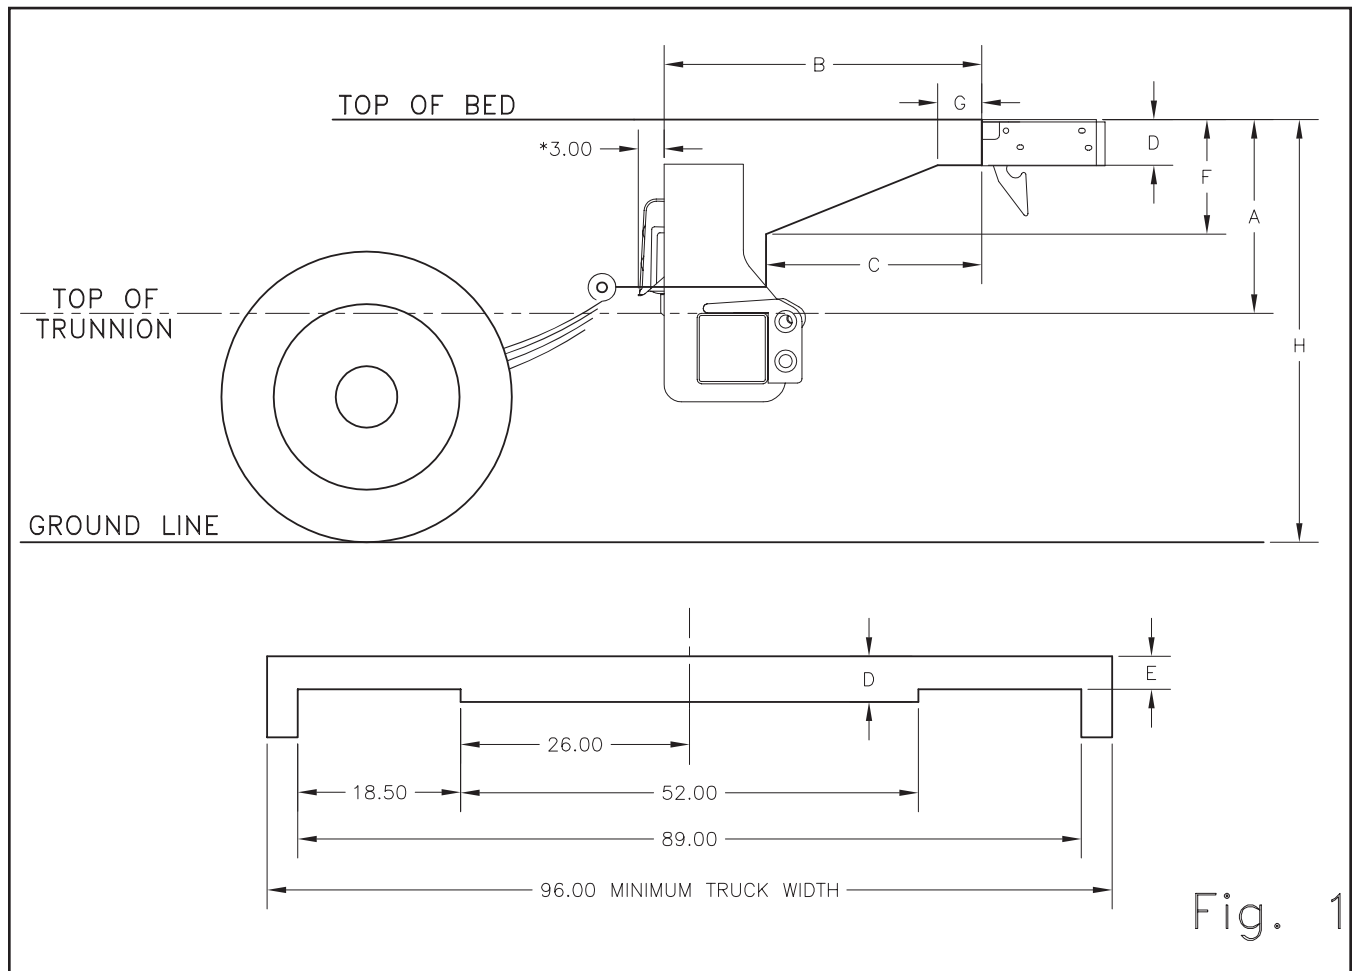

Fig. 1
4. Check "B" dimension for possible interference with spring hanger bracket and check "G" dimension for possible interference with power unit enclosure. See figure 1.
- Step 3 If necessary, notch rear of body and frame of truck according to dimensions in chart below and drawings in figure 1.